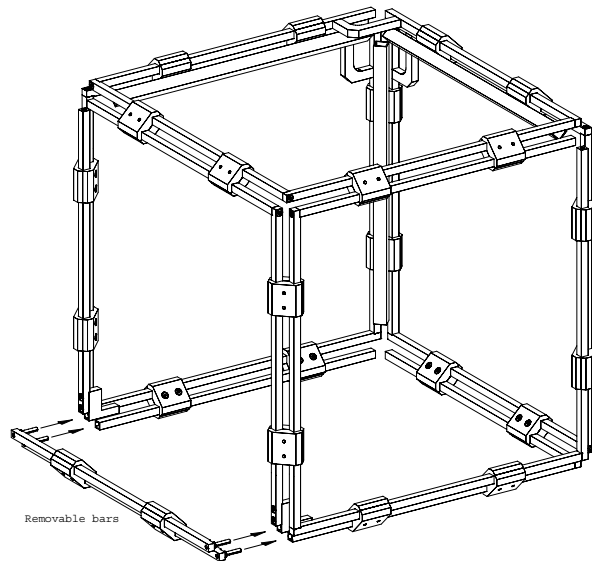

Figure 2
- One bar per frame X and Z is removable to open the coil frame (see figure 2)